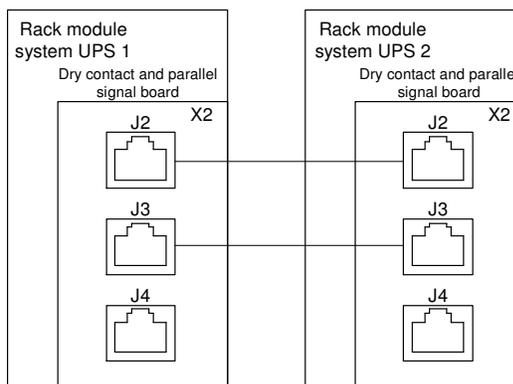

Fig. 3-2: Connection of parallel control cables of "1+N" system
The parallel control cable has THREE types in terms of length: 5m, 10m, and 15m. All the parallel cables are designed to be shielded and double insulated, and are connected between the UPS rack modules to form a loop as shown below. The parallel signal board X2 is installed at the front of the static switch power module. This close loop connection ensures the reliability of the parallel system control. Refer to Fig. 3-2,
**Note:** in Fig. 3-2, X2 is the dry contact and parallel signal board